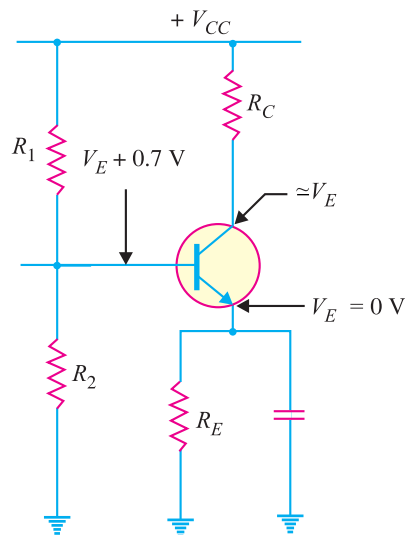

Fig. 9.53
10. What fault is indicated in Fig. 9.53? Give reasons for your answer. [R_C is open]